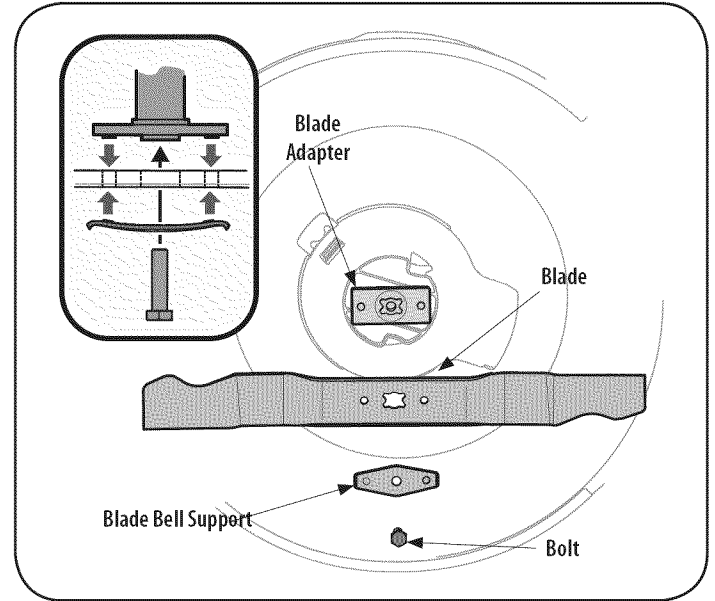

Figure 14
2. Remove the bolt and the blade bell support which hold the blade and the blade adapter to the engine crankshaft. See Figure 14.
5. Lubricate the engine crankshaft and the inner surface of the blade adapter with light oil. Slide the blade adapter onto the engine crankshaft. Place the blade on the adapter such that the side of the blade marked "Bottom" (or with part number) faces the ground when the mower is in the operating position. Make sure that the blade is aligned and seated on the blade adapter flanges. See Figure 14 inset.